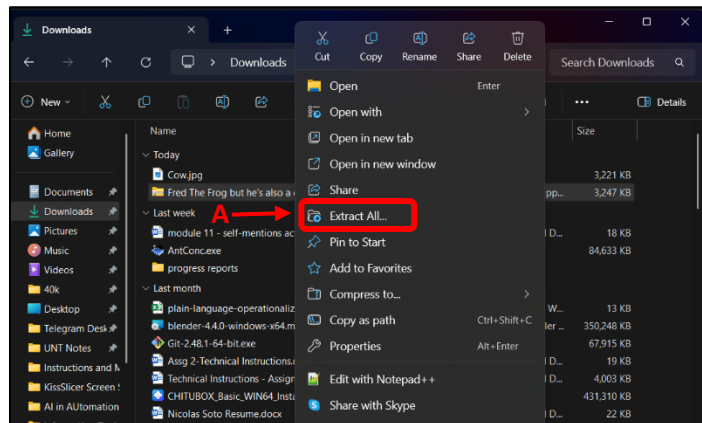

Figure 9: Extracting the downloaded file.
- 9) Right click on the file. (Figure 9)
- 10) Click Extract All. (Figure 9 – A)